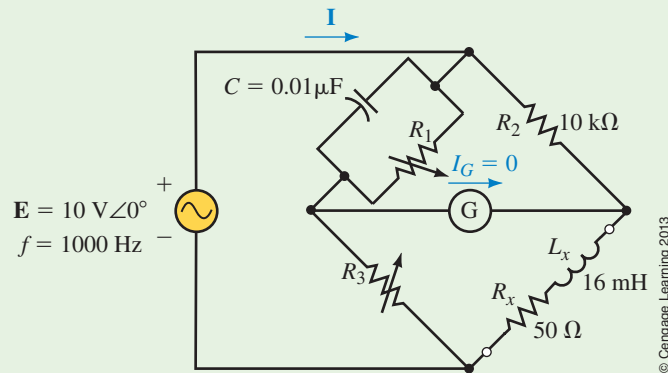

FIGURE 19-39
- Determine the values of R_1 and R_3 so that the bridge of Figure 19-39 is balanced.